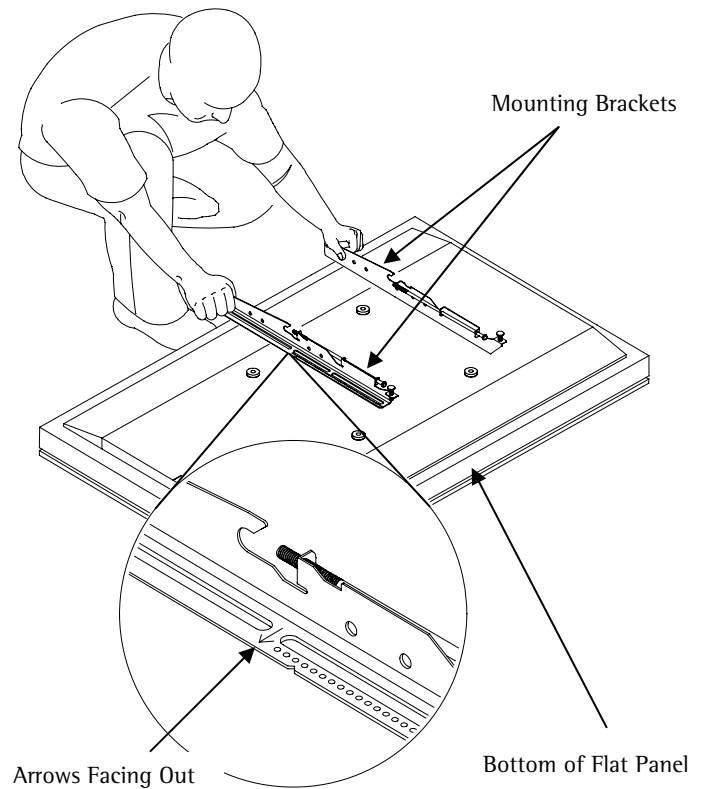

Figure 4
4. Lay the left and right mounting brackets (stamped arrows facing out) - (Figure 4).